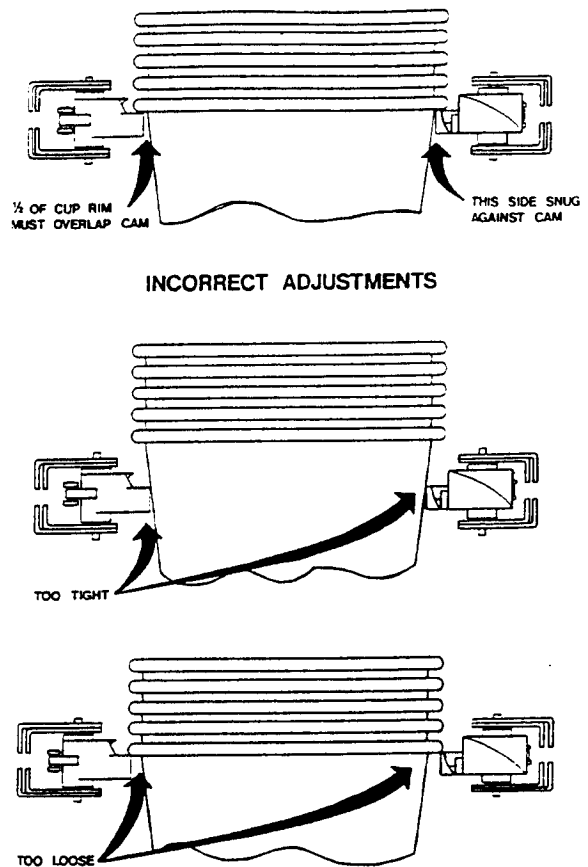

FIGURE 3.18
5. Once the cup rim is resting on the shelf of the cam, a visual check should be done. Using one finger, hold the cup up against one of the six cams, and look up from underneath at the cam directly opposite your finger. The space between the face of the cam and the side of the cup should be 1/2 the width of the cup rim. See Figure 3.18.